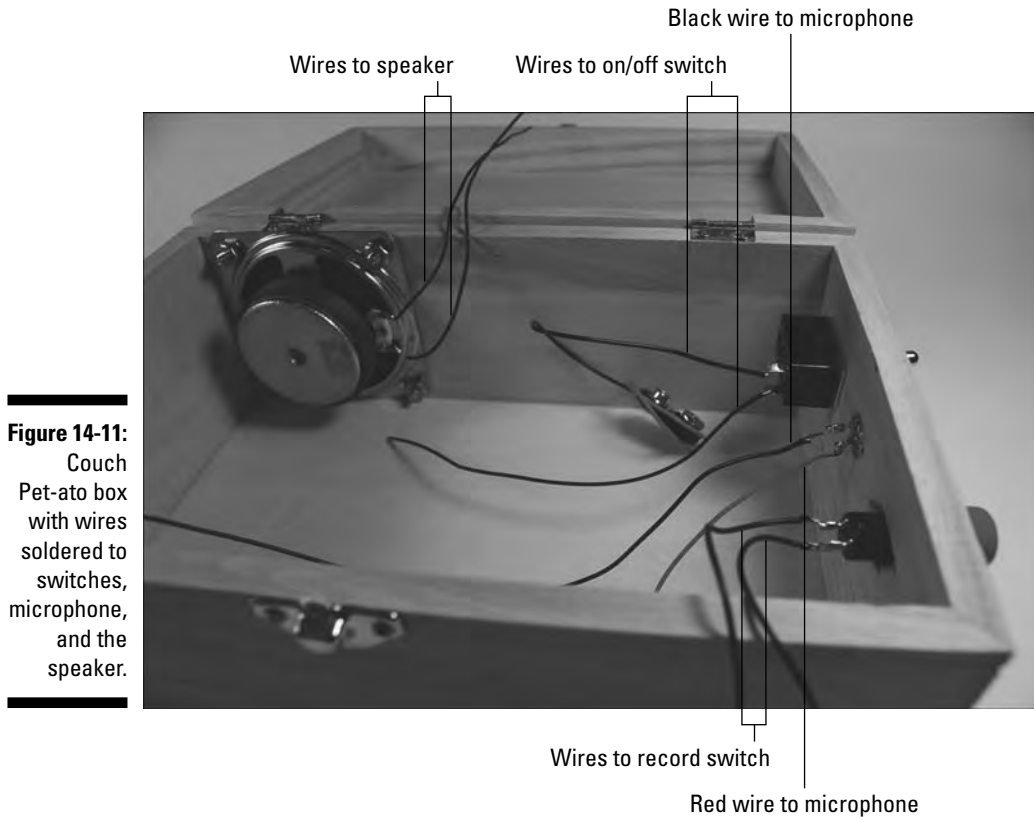

Figure 14-11:
8. Connect 6" wires (any color will work just fine) to the speaker and the record switch and solder them, as shown in Figure 14-11.
9. Connect the black wire from the battery pack snap and another 6" black wire to the on/off switch and solder them together, as shown in Figure 14-11.
10. Connect a 12" red wire and a 12" black wire to the microphone and solder them, as shown in Figure 14-11.